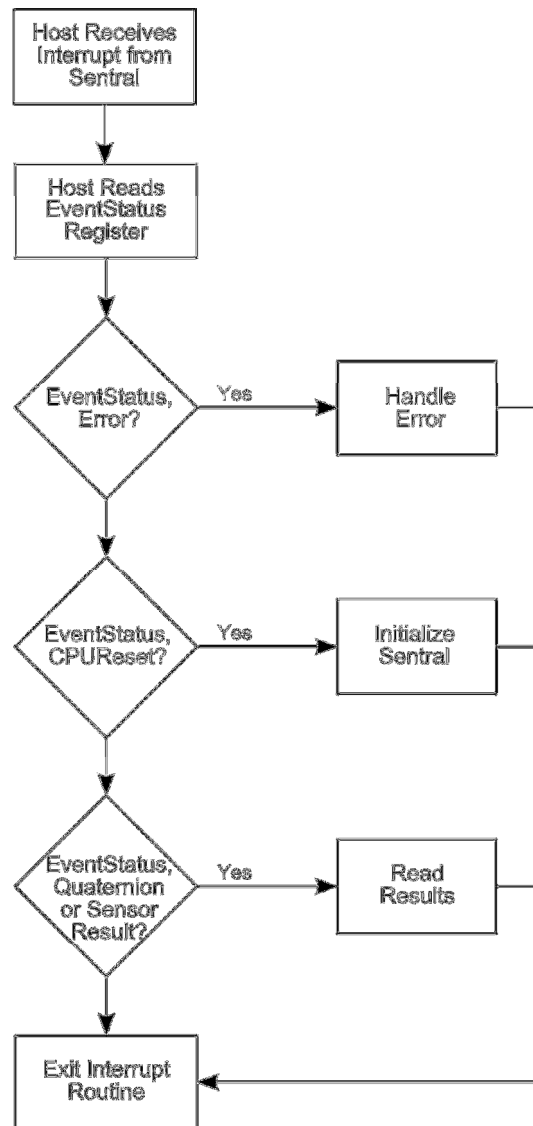

Figure 5-3: SENtral Normal Operation Flow
- Interpret and act on the EventStatus register in the priority shown in Figure 5-3. If bit [1], the Error bit, is '1', see Section 0. If bit [0], the CPUReset bit, is '1', see Section 5.3.2. If bits [2], [3], [4], or [5], the Results bits, are '1', see Section 0.
Note that reading the EventStatus register clears it. It is possible for more than one bit position to be '1' in the EventStatus register, especially if the host does not always read the EventStatus register after receiving an interrupt. Similarly, if multiple bits are set to '1' in the EventStatus register, once the register is read all the bits will be set to '0'. For this reason the EventStatus register should be processed in the priority shown in Figure 5-3, as information will be cleared for events that are not handled.